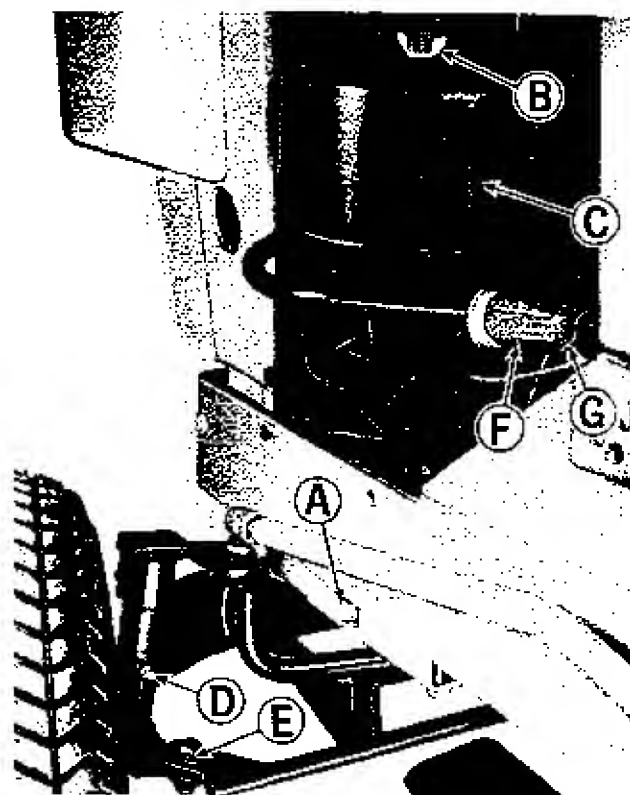

Figure 21. Left front of tractor.
2. See figure 21. Remove the drain plug (A) from the bottom of the engine base and allow the oil to drain.
1. See figure 21. Remove the wing nut (B) and cover (C) from the air cleaner unit.
5. See figure 21. Replace the air cleaner cover (C) and fasten it securely with wing nut (B).
Left Spindle	Figure 21, Item D
Left Tie Rod End	Figure 21, Item E
1. See figure 21. Remove wing nut (B) and cover (C) from the air cleaner.
7. See figure 21. Replace cover (C) and wing nut (B) and tighten securely.
REPLACE FUEL FILTER: See figure 21. Every 100 hours or more often under dirty field conditions, the fuel filter (F) should be replaced. **CAUTION: DO NOT REMOVE THE FUEL FILTER WHEN THE ENGINE IS HOT, AS SPILLED GASOLINE MAY IGNITE. USE CARE WHEN REMOVING AND INSTALLING CLAMPS (G). NOT TO SPREAD THEM ANY MORE THAN NECESSARY AS THEY MAY TAKE A SET AND NOT HOLD THE HOSE TO THE FILTER PROPERLY.**